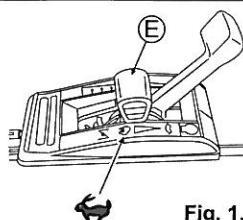

Fig. 1.
- 2 Set Throttle lever (E) to "START" to start mowing. (See Fig. 1.)